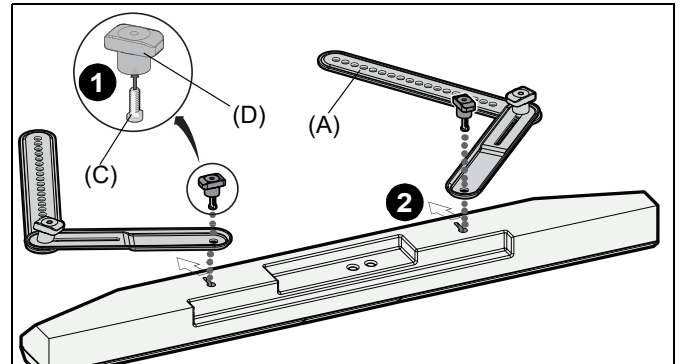

Figure 3
- Assemble knobs (D) and keyhole screws (C). (See Figure 3)
- Attach the soundbar brackets (A) to soundbar using the knob assemblies. (See Figure 3)